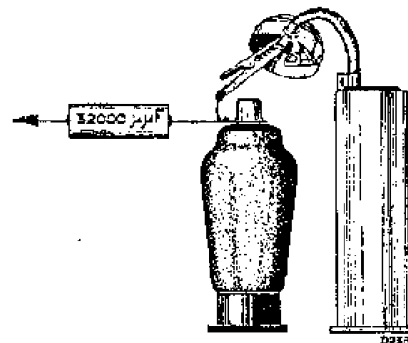

Fig. 2
5. Apply modulated signal of 128 K.C. via 32,000 $\mu\mu\text{F}$ to the fourth grid of L1 (fig. 2).